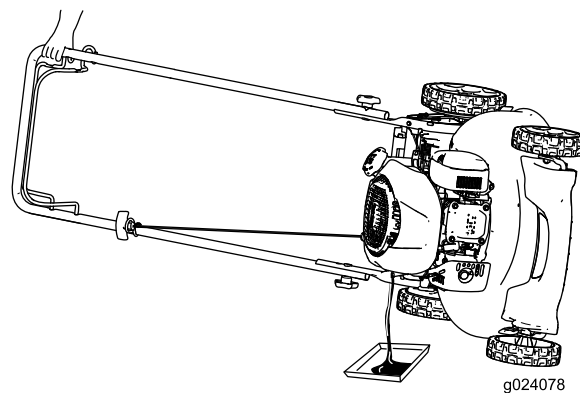

Figure 22
2. Tip the machine onto its side, with the dipstick down, to drain the used oil out through the oil-fill tube (Figure 22).